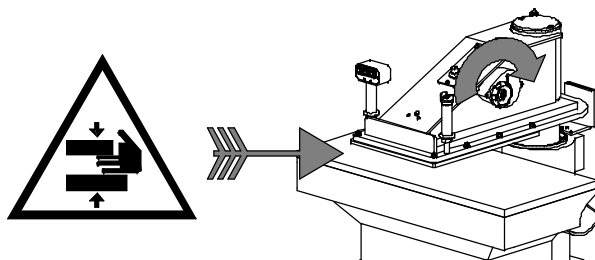

Fig. 10
a) The handwheel located on the right side of the arm is used to adjust the turning arm stroke. By turning it clockwise, as indicated by the arrow in Fig. 10, the arm moves downward; counter clockwise, the arm moves upward.